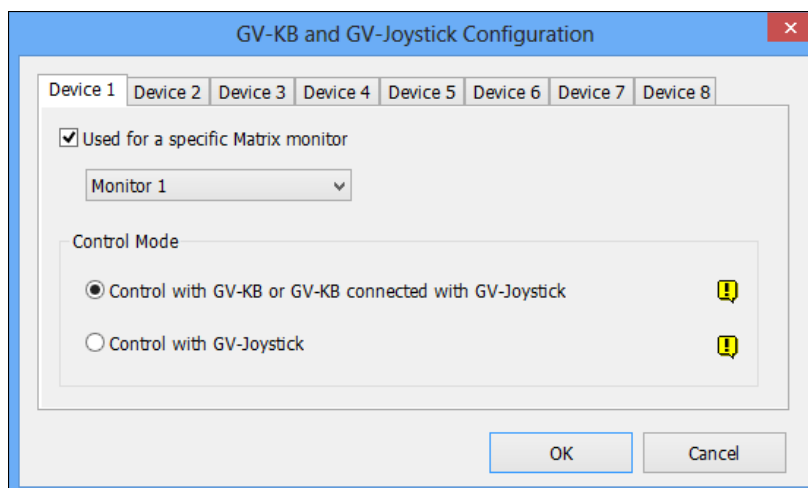

Figure 1-16
- For GV-VMS, **Monopoly Mode** is not available. Instead, go to GV-VMS main screen, click **Toolbar** , select **Accessories**, and select **GV-KB** and **GV-Joystick Configuration**, you can see the dialog box like figure 1-16.